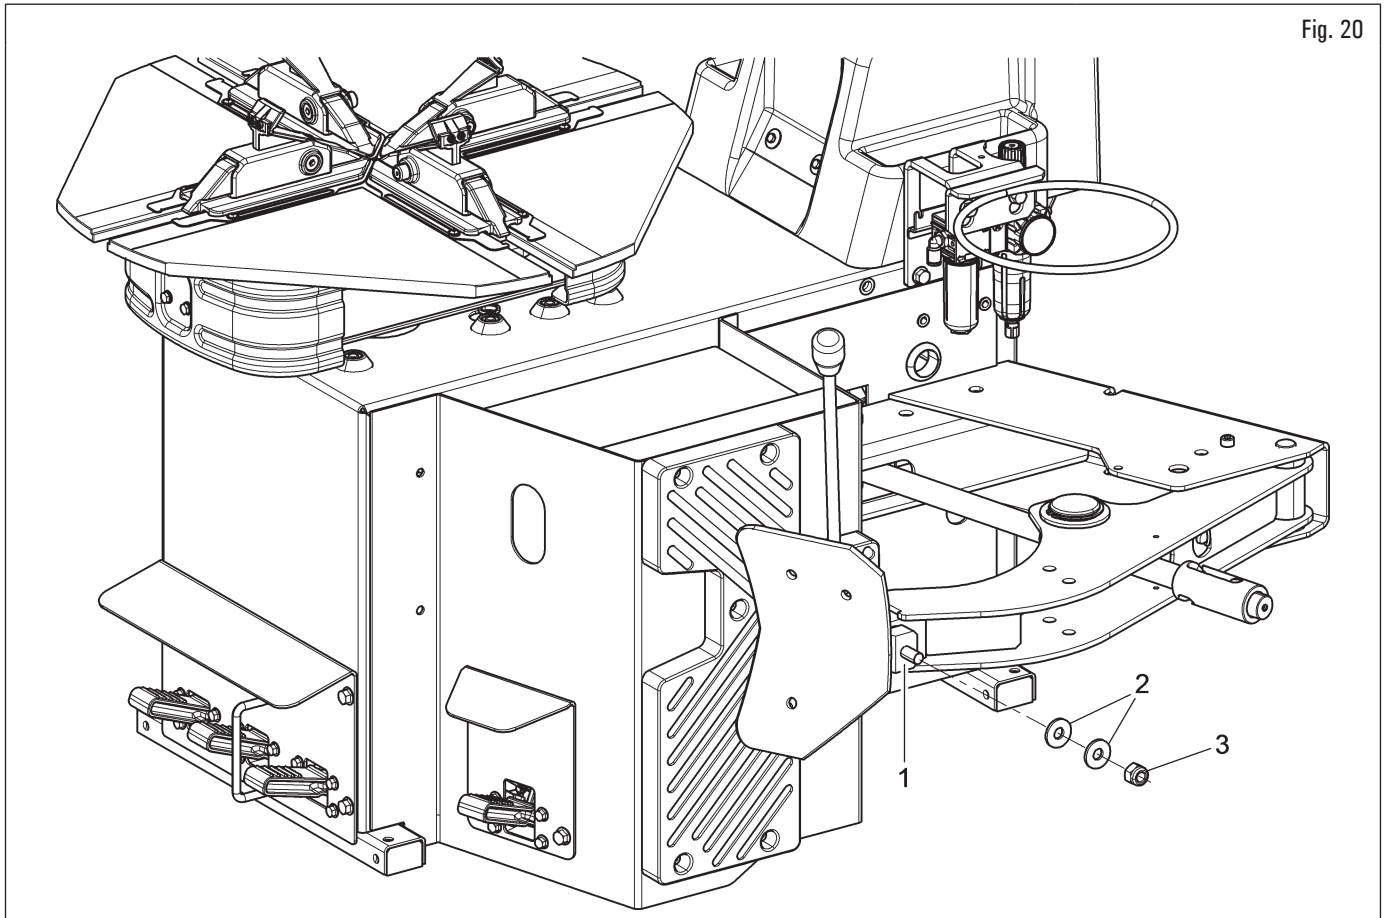

Fig. 20
Secure the beading arm shovel (Fig. 20 ref. 1) using the washers (Fig. 20 ref. 2) and the nut (Fig. 20 ref. 3), supplied (nut and washers are clamped on the bead breaker vane).